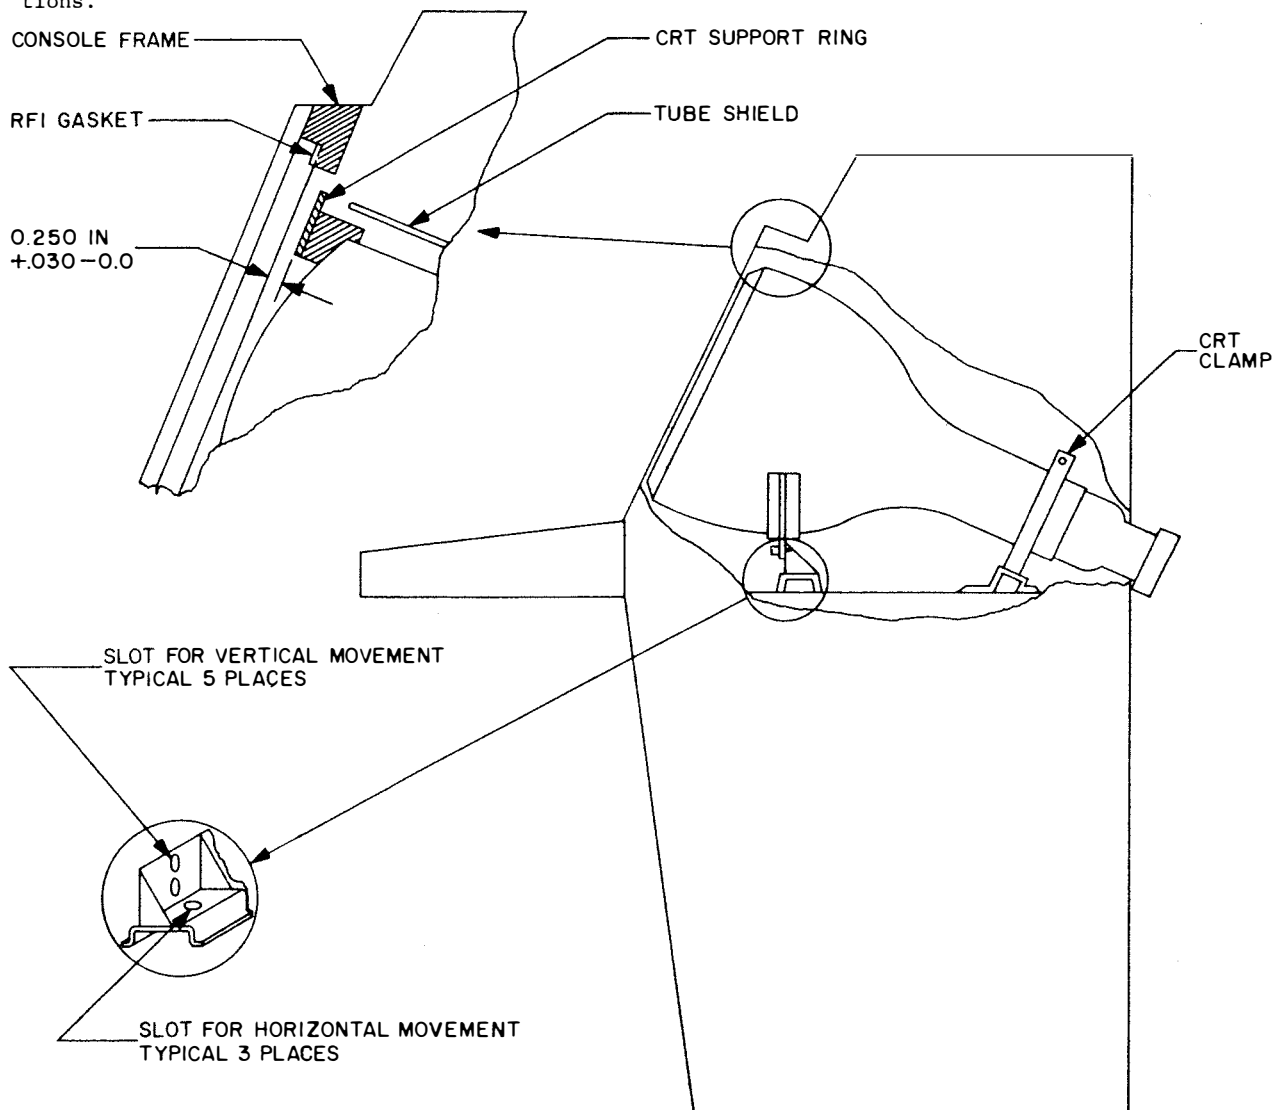

Figure 1. PPI Console
5. Raise the PPI console lid and loosen the nut on the CRT clamp around the neck of the CRT shield at the rear of the PPI console as indicated in figure 1.
6. Loosen the three screws in the front CRT support bracket which have the slots for horizontal movement (Refer to detail in figure 1). There is one screw on the left side, one on the right and one in the middle of the CRT support bracket.
7. Move the CRT and tube shield back to the 0.250" (+.030 -0.0) dimension as indicated in detail in figure 1.